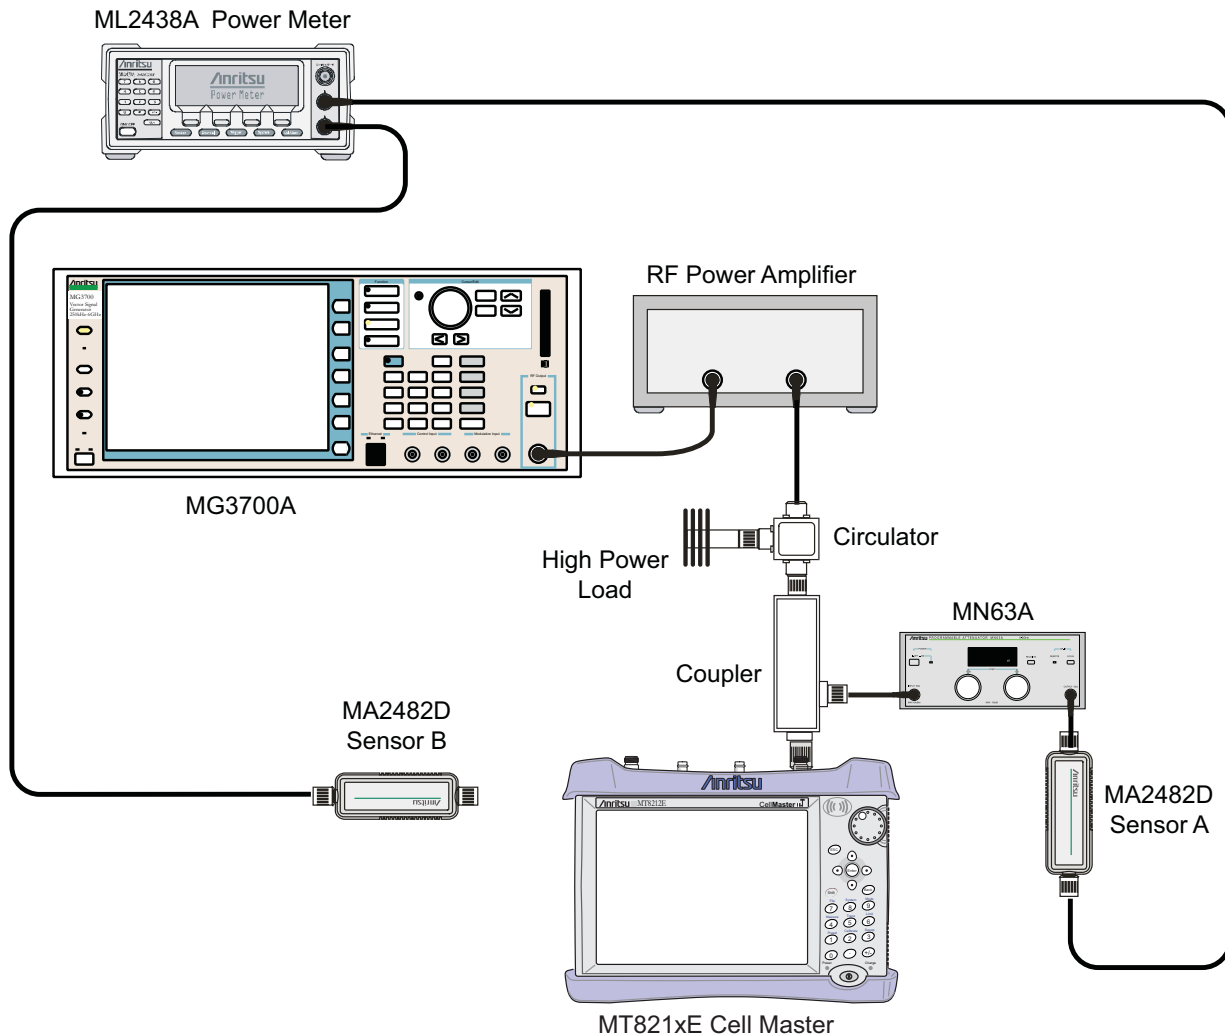

Figure 5-9. WCDMA Signal Analyzer Option Verification (Setup 2)
33. Disconnect the coupler from sensor B and connect the coupler to the MT821xE SPA RF In connector. Refer to Figure 5-9